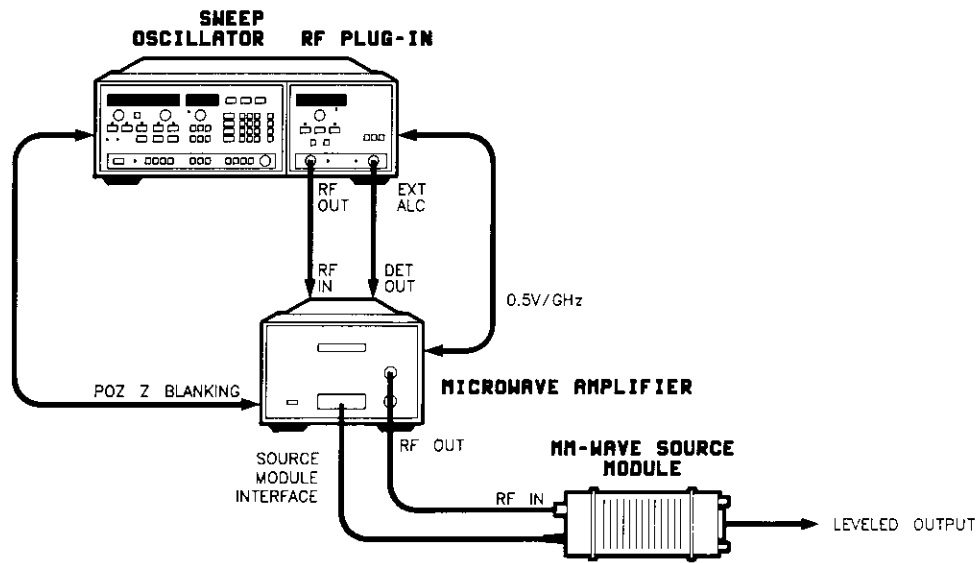

Figure 3-5. Typical millimeter-wave test setup
2. **0.5 V/GHz – 1 V/GHz.** Selectable (1 V/GHz or 0.5 V/GHz) BNC connector output that corresponds to the RF output frequency (0.01 to 18 GHz for 1 V/GHz and 0.01 to 26.5 GHz for 0.5 V/GHz). The HP 8410B/8411A network analyzer utilizes the 1.0 V/GHz output for phase-locking. The HP 83550 series millimeter-wave source modules use the 0.5 V/GHz as a frequency reference for millimeter-wave applications. See Figure 3-5 for instructions on how to set the frequency reference selection switch (A2S1).
Figure 3-5 shows a typical millimeter-wave test set up using an HP 83595A. Note that an HP 8349B microwave amplifier is required to produce the power level required by the millimeter-wave source module. Also notice that the HP 83550 series millimeter-wave source modules use the 0.5V/GHz as a frequency reference, this 1.0/0.5 V/GHz frequency reference output is switch selectable on the A2 interface assembly.